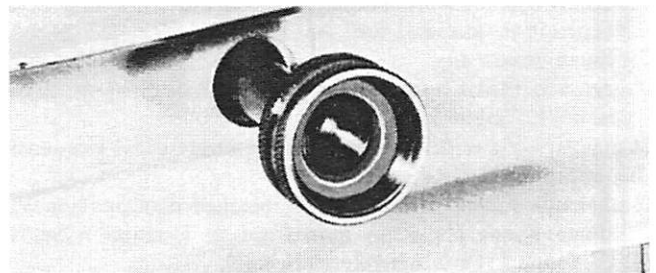

Figure 1. Flushing Attachment (C-24789A1)
- b. Connect flushing device (chart, following) and attach garden hose coupling (Figure 1 page 14) with hose.